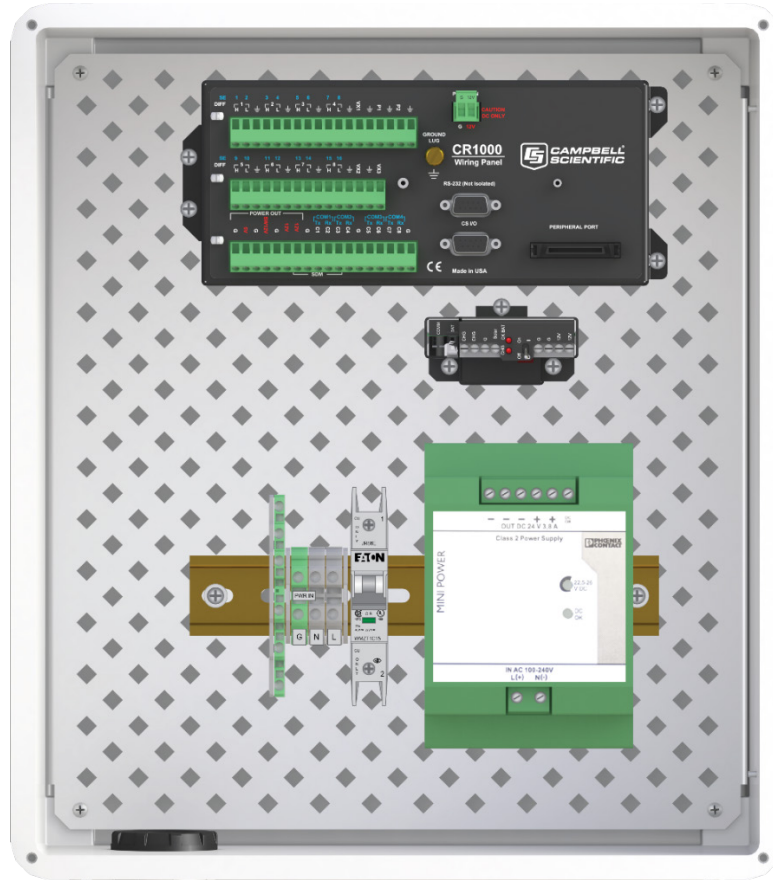

FIGURE 5-2. DIN rail components prior to wiring
1. FIGURE 5-2 shows the components of the kit mounted on a DIN rail. From left to right, these include a 3 x 6 terminal block, a ground terminal block, a neutral terminal block, a line terminal block, the circuit breaker, and the 3.8 A power supply. Also shown are a CR1000 datalogger and CH200 charging regulator (not included in the kit).